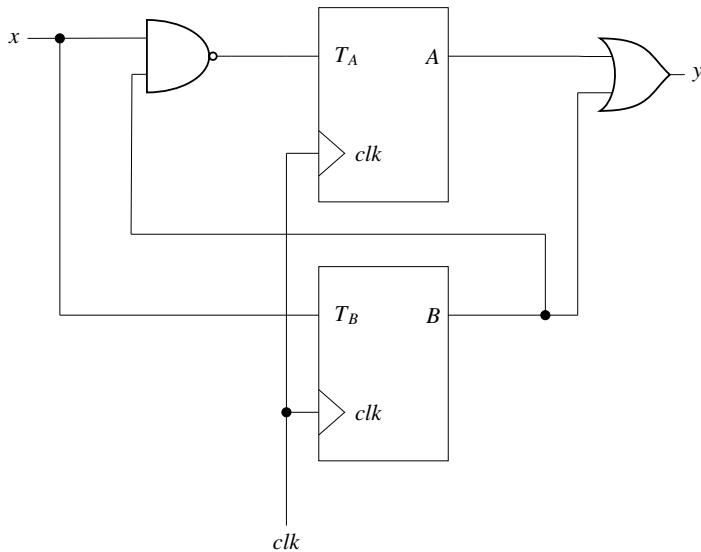

Fig. 5.30
31. Two T-flip flops are interconnected as shown in Fig. 5.30. The present state of the flip flops are:  $A = 1, B = 1$ . The input  $x$  is given as 1, 0, 1 in the next three clock cycles. The decimal equivalent of  $(ABy)_2$  with A being the MSB and y being the LSB, after the 3rd clock cycle is \_\_\_\_\_